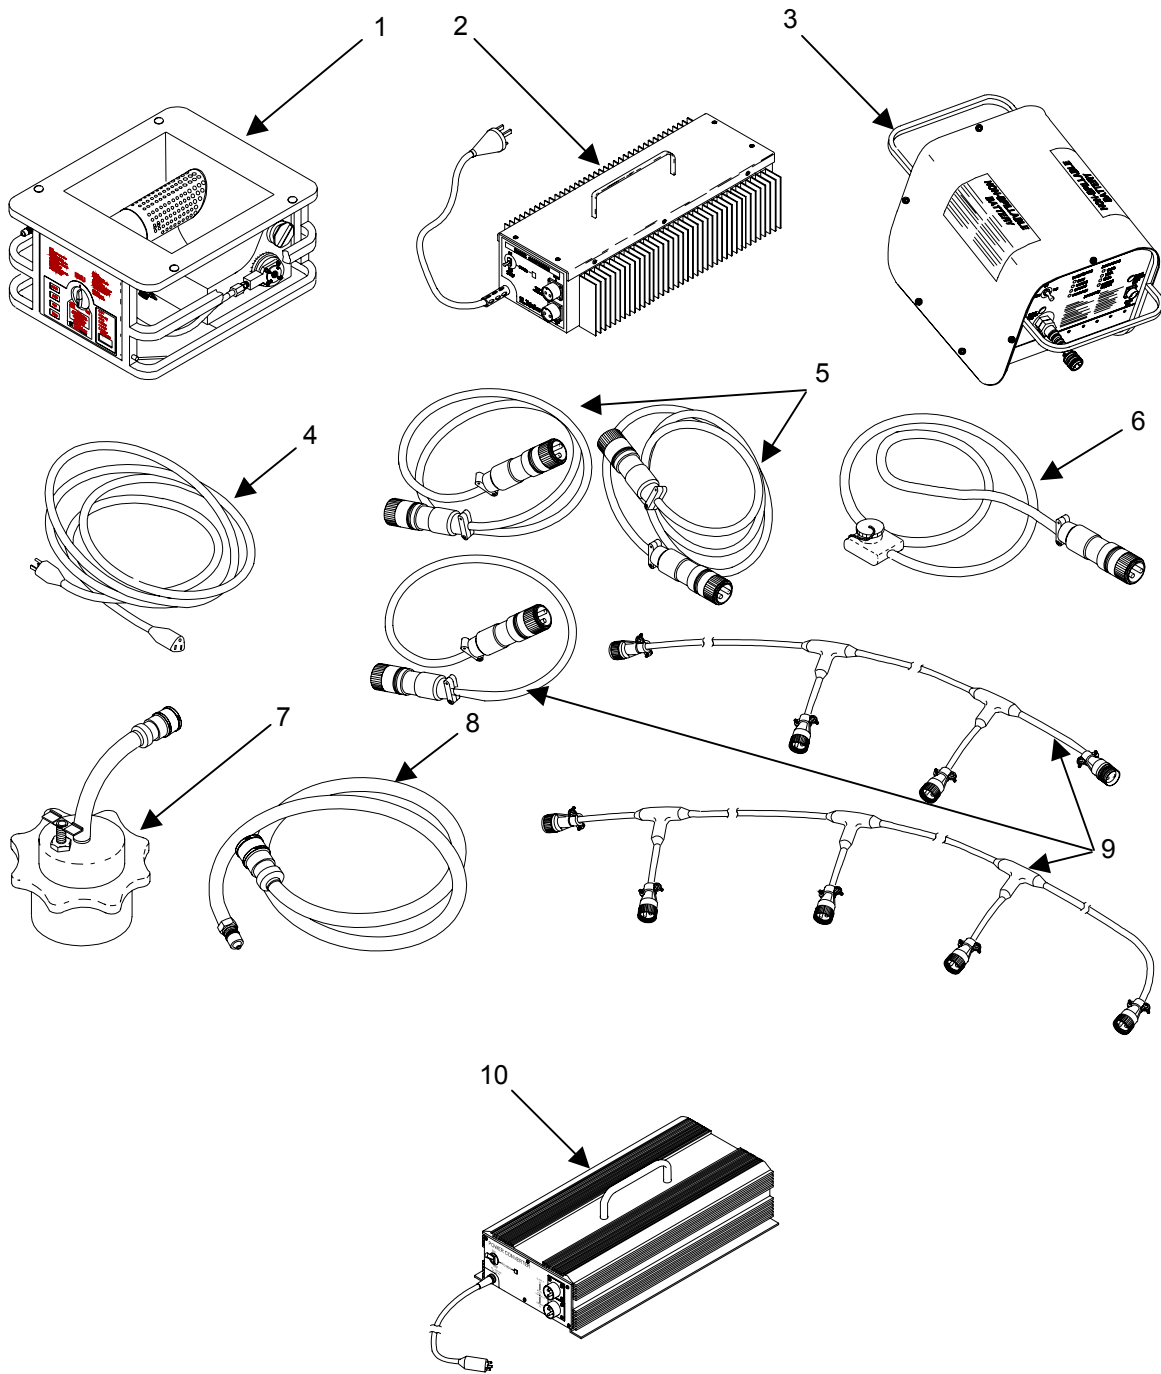

Figure 1. Modern Burner Unit and Associated Equipment
This Technical Manual contains instructions for the operation as well as preventive and corrective maintenance for the Modern Burner Unit (MBU and MBU-V3) (**figure 1, item 1**) and its associated equipment consisting of a Power Converter (**figure 1, item 2**), Battery Pack (**figure 1, item 3**), 110VAC extension cord (**figure 1, item 4**), 24VDC Extension Cables (**figure 1, item 5**), NATO Adapter Cable (**figure 1, item 6**), Fuel Can Adapter (**figure 1, item 7**), Fuel Hose (**figure 1, item 8**), and Branch Cables (**figure 1, item 9**).
An improved Power Converter (**figure 1, item 10**) is available, and may be used with all MBUs.